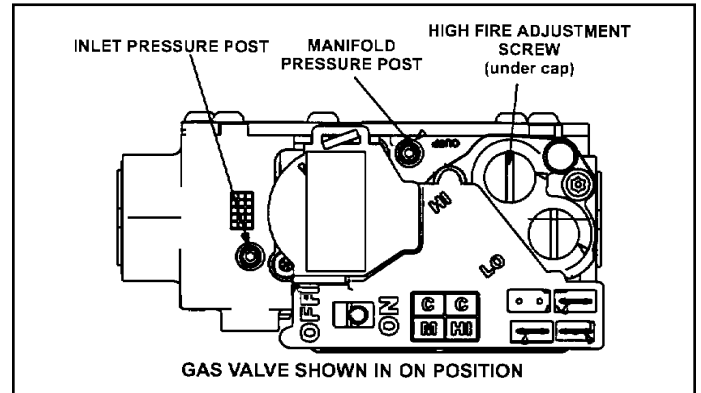

Figure 60. Gas Valve Shown In "ON" Position
6. Move gas valve switch to OFF. See Figure 60.
8. Move gas valve switch to ON. See Figure 60.
1. A manifold post located on the gas valve provides access to the manifold pressure. See Figure 60. Back out the 3/32 Hex screw one turn, connect a piece of 5/16" tubing and connect to a manometer to measure manifold pressure.